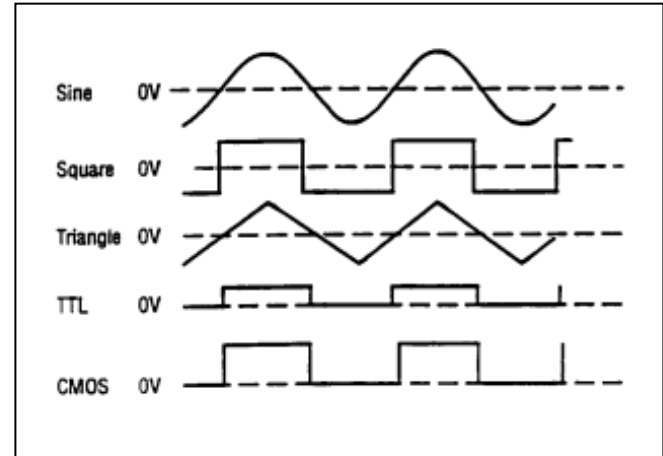

Figure 2. Output Waveform and Phase Relationship
1. Initially, verify that the **DUTY CYCLE** (14), **CMOS LEVEL** (13), **DC OFFSET** (12), **-20dB** (11) switches are in the **OUT** position (released). This will produce a symmetrical waveform unaffected by the other controls.
2. Plug the unit into an appropriate power source and turn it on by engaging the **POWER** switch (1).
3. Select the desired waveform (**SINE**, **SQUARE**, or **TRIANGLE**) by engaging one of the **FUNCTION** switches (3). Phase relationships of the waveforms are shown in Fig. 2.
4. Select the frequency of the waveform by engaging one of the **RANGE** switches (2). The output frequency is displayed, along with the appropriate measurement units, kHz or Hz (19), on the LED display.
5. Rotate the **COARSE** (16) frequency control to quickly set the output frequency to the approximate desired value. The **FINE** (15) frequency control can then be used to easily set the output to the specific desired value. The frequency selected is available at the **OUTPUT** jack (6). In addition, a digital signal, either **TTL** or **CMOS** is available at the **TTL/CMOS** jack (7) (refer to the "TTL/CMOS OUTPUT" section of this manual).